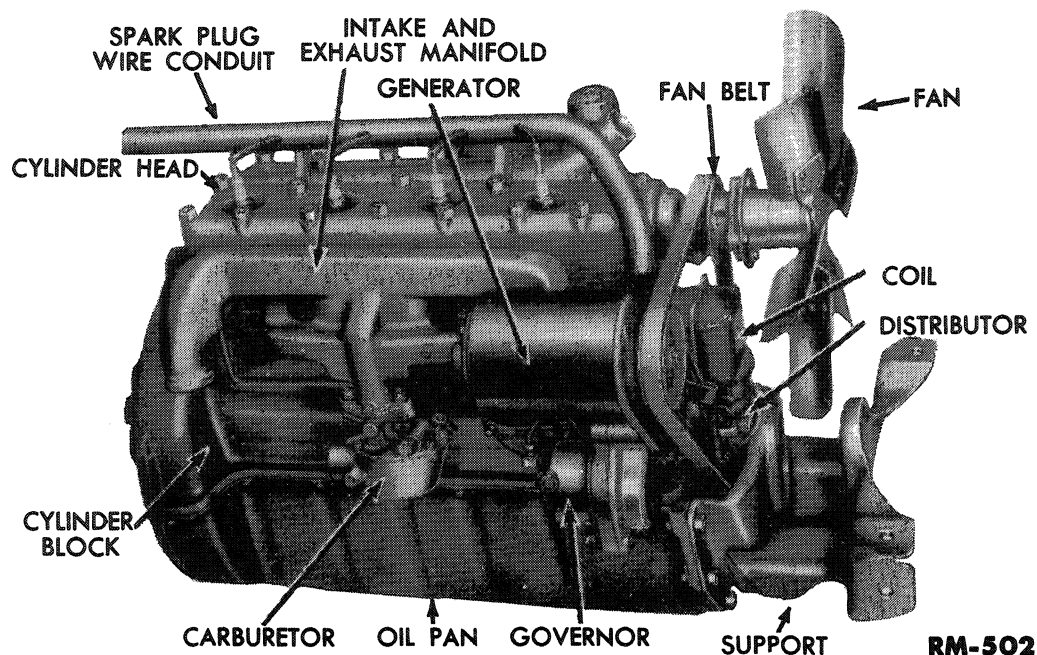

Fig. 2—Right $\frac{3}{4}$ Front View of Engine
a. Remove Generator. Remove the nuts that secure the generator adjustment bracket to the timing gear side cover and generator. Disconnect the generator wiring. Remove the bolt and washer that secure the generator to the cylinder front cover, and remove the generator (fig. 2).
d. Remove Carburetor. Remove the two nuts and lock washers that secure the carburetor to the intake manifold. Remove the carburetor (fig. 2).
a. Remove Intake and Exhaust Manifolds. Remove the nuts and washers that secure the intake and exhaust manifolds to the cylinder block. Lift the manifolds off the cylinder block as an assembly (fig. 2).